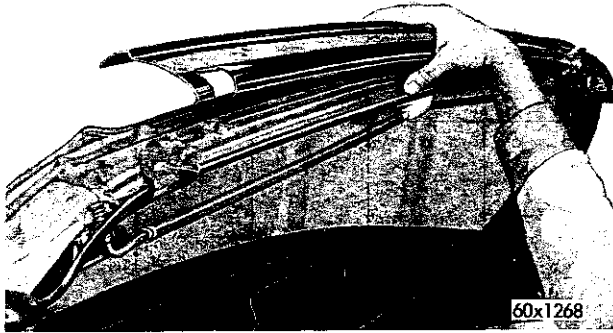

Fig. 68—Removing the Windshield Header Moulding (Convertible)
- (1) Cover up the adjacent cowl, hood and fender area with protective covering.
- (2) Release the top locking mechanism and push the top header from the windshield frame to expose the screws holding the moulding.
- (3) Remove the windshield wiper arms and blades.
- (4) Remove the upper header moulding, attaching screws and remove the moulding.
- (5) Pry the header moulding up slightly to clear the moulding from the weatherstrip then disengage from the header and remove, as shown in Figure 68.